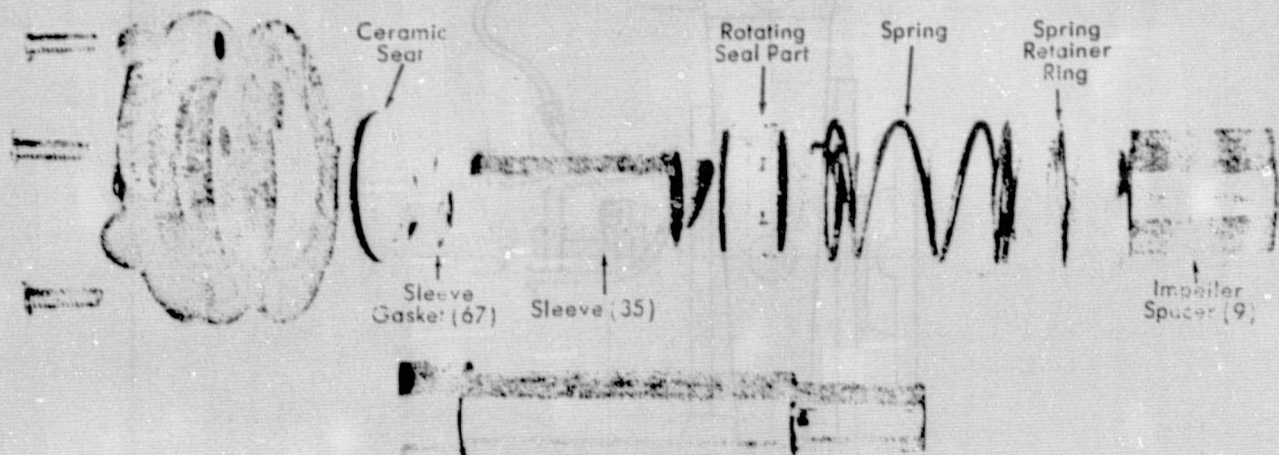

Fig. 9—Seal Arrangement on Shaft
Before reassembling suction cover (1) insert the two side cap bolts (30) through seal retainer cap (32) and cap gasket (28) and slide them towards rear end of casing (8) (Fig. 9). Start bolts in threaded holes and take up cap evenly by turning bolt (30) alternately on each side. Do this operation very carefully in order not to break seal. When cap reaches casing (8) insert also top and bottom bolt (30) and tighten all four alternately and evenly.